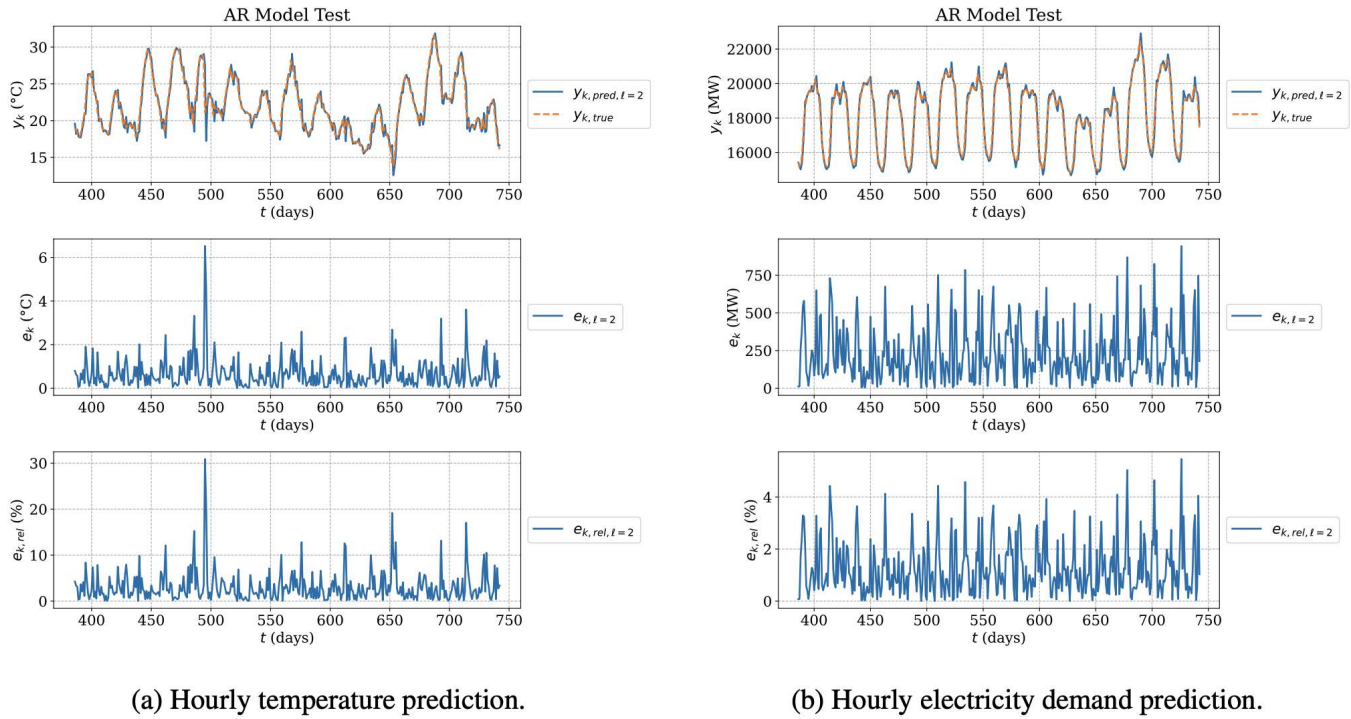

Figure 2: Prediction, error, and relative error for $\ell = 2$, 2022-08-17 to 2022-08-31.
Two “individual” AR models of the form given in (2) that use $\ell = 2$ are fit to the temperature data and the electricity demand data, respectively, from the 16 days of August 2022, then tested on the last 15 days of August 2022. The temperature AR model is able to predict the temperature 1 hour ahead with a mean absolute error of about $\approx 0.66^\circ\text{C}$, and the electricity demand AR model is able to predict the electricity demand 1 hour ahead with a mean absolute error of $\approx 227\text{ MW}$. See Figure 2 and Table 1 for details.
- f) Regarding the performance of the “coupled” AR model in comparison to the “individual” AR models, answer the following questions. Refer to Figure 2 and Table 1 for the “individual” AR model results.
- Compare the plots you generated with Figure 2. Do the plots look similar?